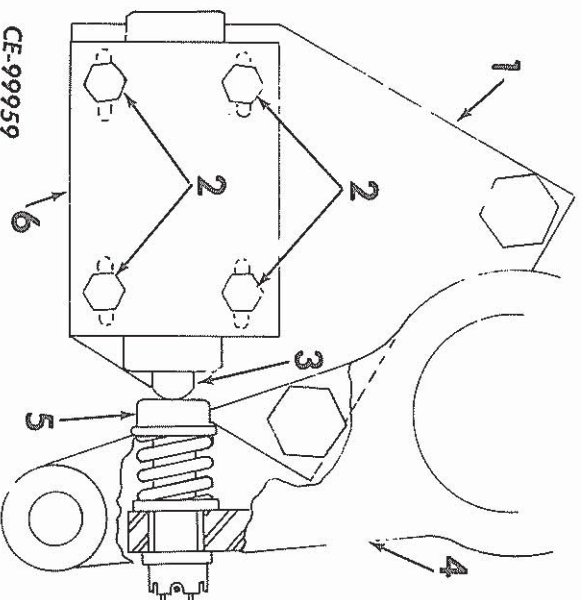

FIG. 32 — Diverter Valve Adjustment Points
11. With the engine stopped, position the clutch hand lever all the way forward (disengaged) and check that the diverter valve spool (3, Fig. 32) is depressed 6.35mm (1/4 in.) by the actuating bolt (5) located in the bottom of the hand lever. If necessary, loosen the diverter valve mounting bolts (2) from the slotted mounting holes in the diverter valve support (1) and move the diverter valve (6) as needed to obtain the 6.35mm (1/4 in.) adjustment. Secure the diverter valve to the support in this location. Start the engine and check to be sure the transmission gears can be shifted when the clutch is disengaged, and cannot be shifted when the clutch is engaged. If either of these conditions are reversed, stop the